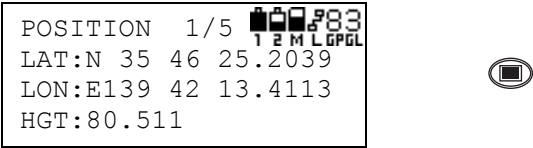

Figure 3-44. Current Display and Menu Key
1. Press the **menu key**, initiating the menu mode (Figure 3-44).